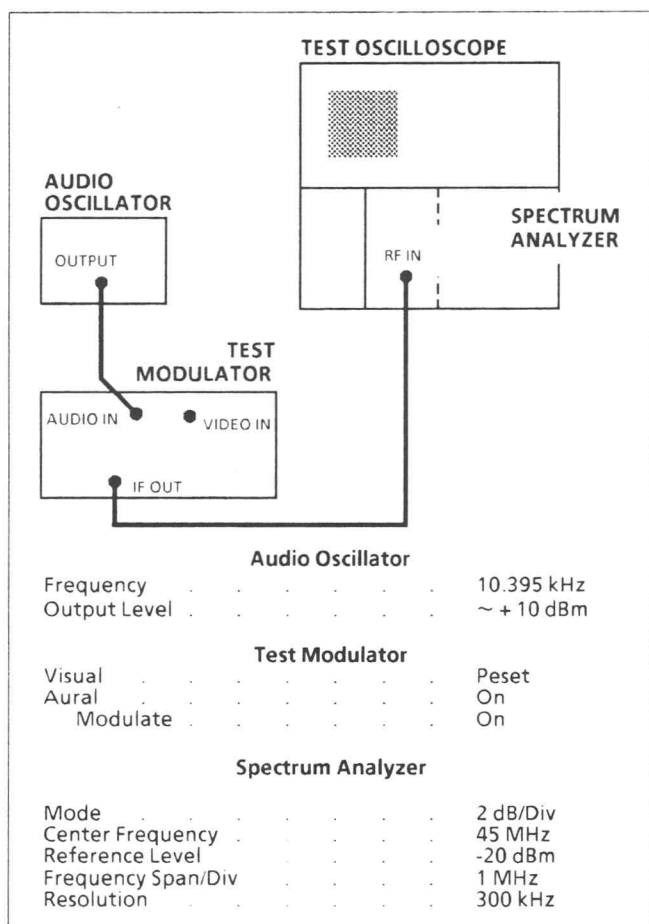

Fig. 4-28. Setup for obtaining 25 kHz deviation (1st carrier null).
- Connect and set the test equipment as shown in Fig. 4-28.